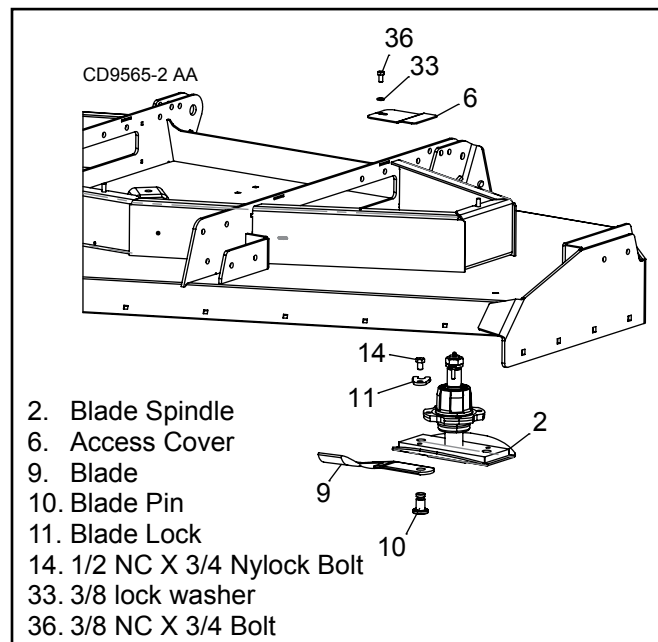

Figure 22. Blade Assembly
(Figure 22)
NOTICE: When installing blade, the lift of the blade must be toward the spindle blade housing as shown in Figure 22. Torque bolt (14) to 85 lbs-ft.
1. Install blade pin (10) thru blade (9) and blade cross-bar (2). See Figure 22.
3. Insert blade lock (11) into groove of blade pin (10).
4. Secure lock (11) with Nylock bolt (14) Torque to 85 lbs/ft.
5. Replace access cover (6), Nylock bolt (36), and lock washer (33).